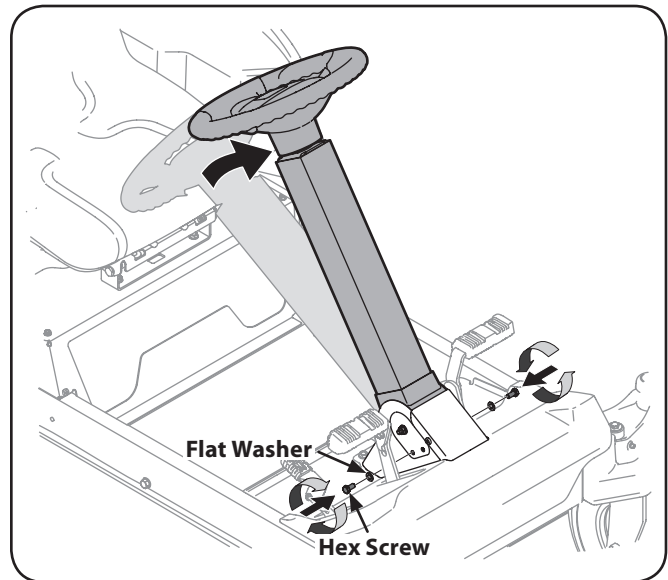

Figure 3-2
1. Place the steering column in one of the two positions and secure in place with the hex screws and flat washers packed separately. See Fig. 3-2.